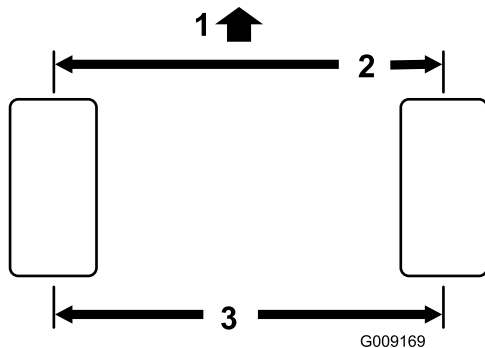

Figure 48
1. Measure the center-to-center distance (at axle height) at the front and rear of the steering tires. The front measurement must be 1/8 in. (3 mm) less than the rear measurement (Figure 48).